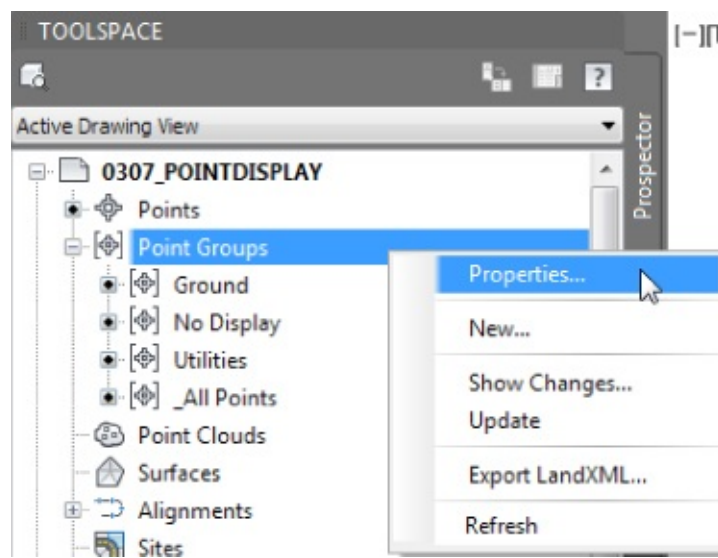

Figure 3.26 Select Point Groups > Properties to change point group display precedence.
2. In Prospector, right-click Point Groups and select Properties (see Figure 3.26).